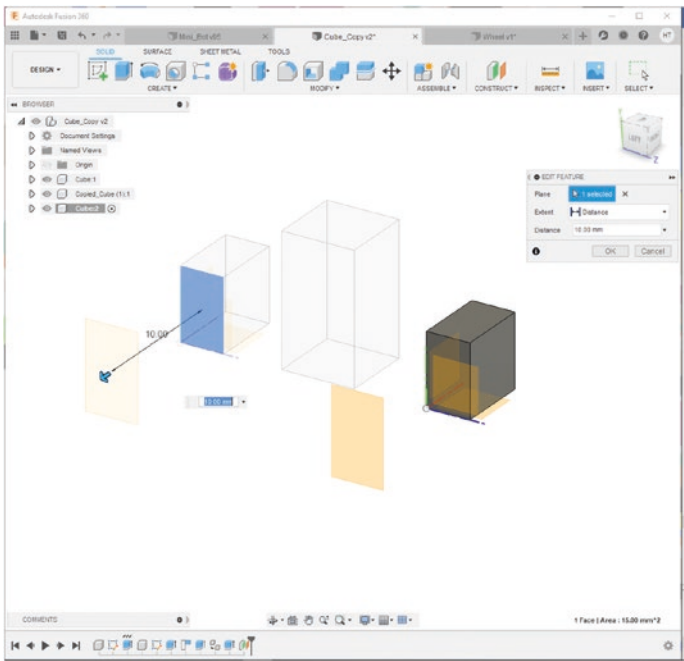

Figure 8-10. *Make the offset plane 10mm from the cube*
3. Now move the offset plane to 10mm. See Figure 8-10.